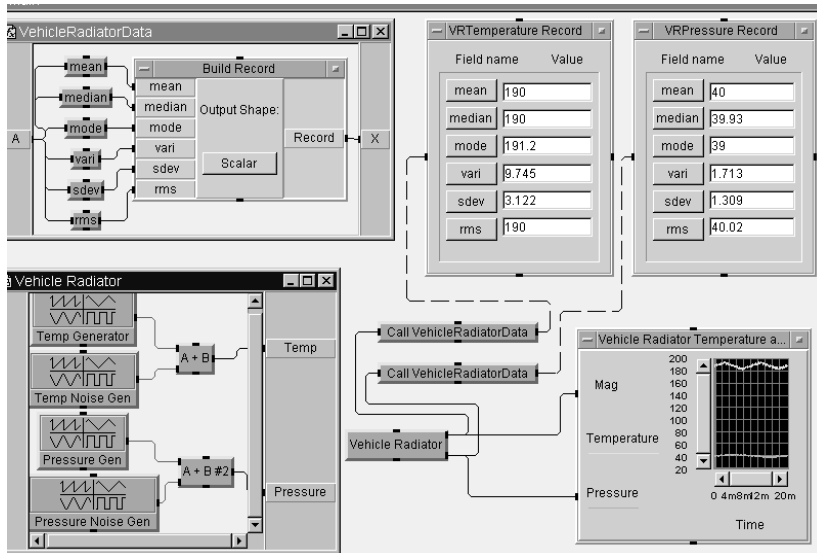

Figure 11.11. The Lab 11-4 program after running
20. Run this program; it should look like Figure 11.11.